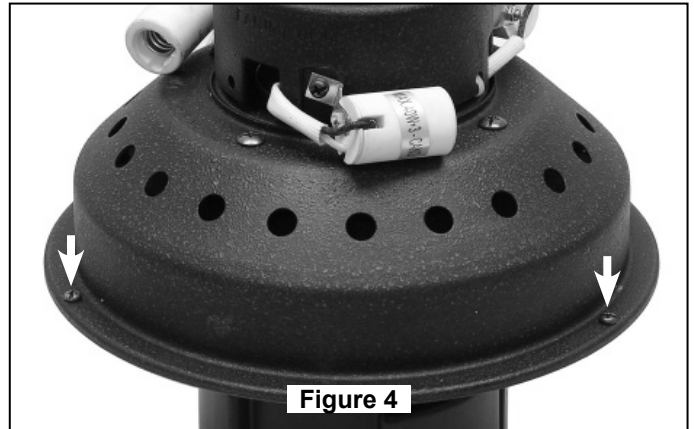

Figure 4
4. Assemble the 18" Down Rod and the Sleeve Kit in the order as shown (Figure 4).
8. The three screws are pre-assembled onto the Fan Motor assembly. (Figure 4) Remove three screws and use them to attach the Housing Fixture onto the Fan Motor assembly. (Figure 5a)